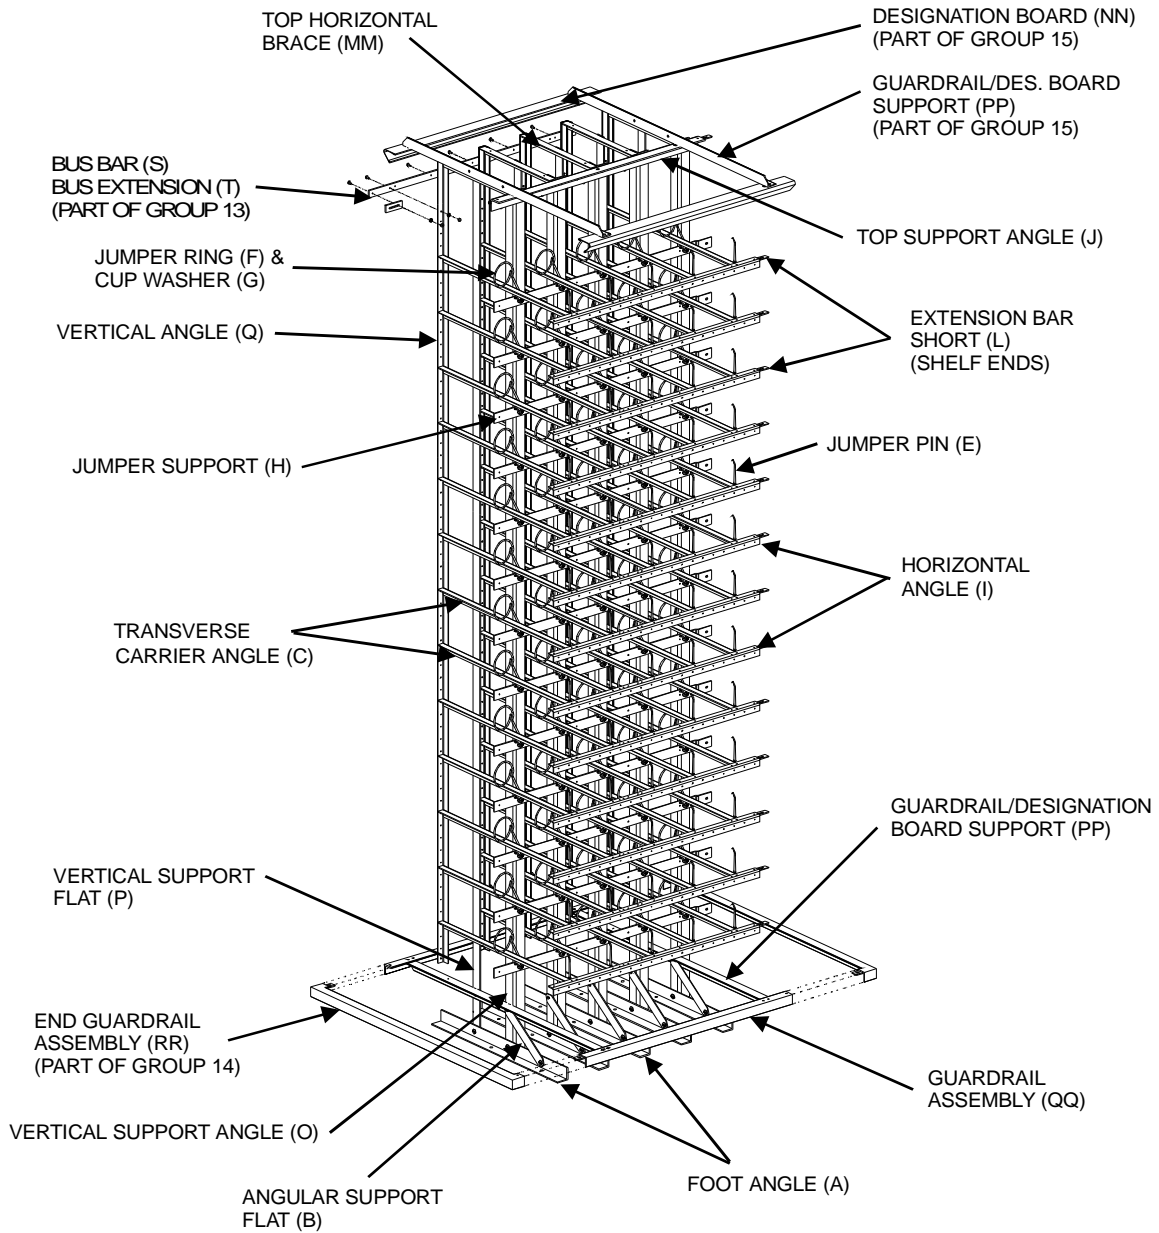

Figure 1. Complete Frame Assembly For Groups 2, 4, and 6 (Groups 1, 3, and 5 Similar)
NOTE: See Figures 1 and 2 for a full view of the vertical assembly with transverse carrier angles.
1. Fasten the completed vertical assemblies **loosely** to the floor using locally obtained expansion anchors (wedge bolts). **Do not tighten frame to floor at this time.** Provide locally obtained shims or washers and level vertical assemblies to each other. *Figures 1 and 2 show an assembled frame.*
2. Attach jumper ring (F), cup washer (G), and jumper support (H) to vertical support angles (O), using M6 x 1.0 x 25 bolts (Y), nuts (FF), and washers (JJ).